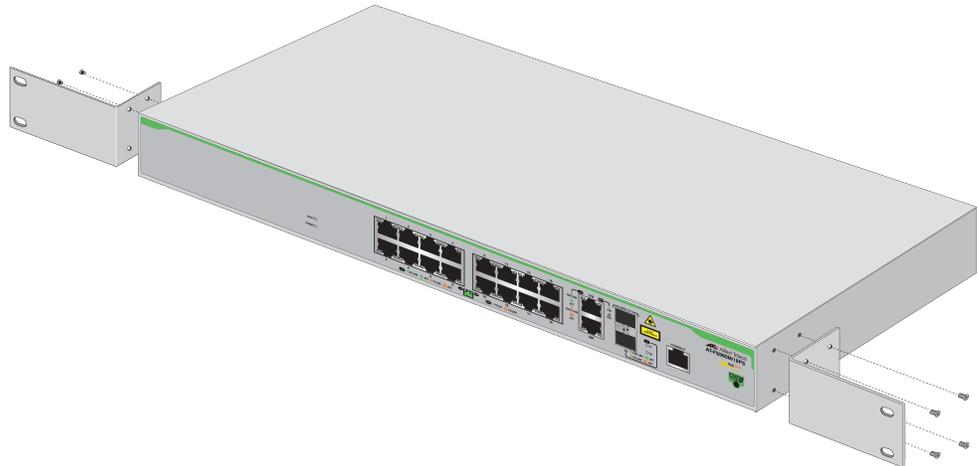

Figure 31. Attaching the Equipment Rack Brackets
2. Orient the brackets against the sides of the switch and secure them to the switch with the eight screws as shown in Figure 31 on page 57.